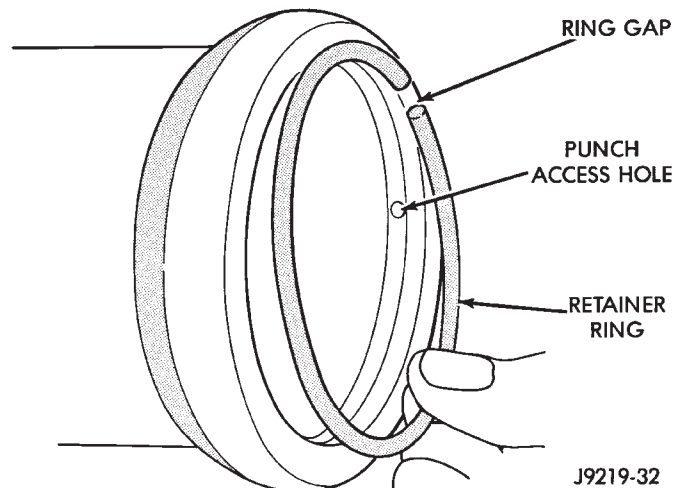

Fig. 5 Installing The Retaining Ring
- (2) Install end plug by tapping the plug lightly with a plastic mallet into the housing.
- (3) Install retaining ring so one end of the ring covers the housing access hole (Fig. 5).